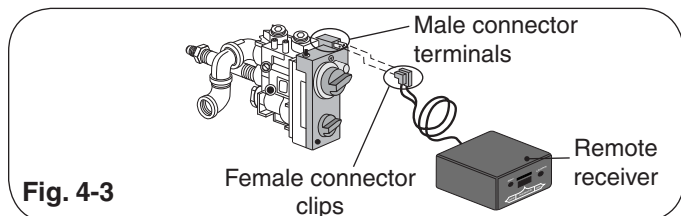

Fig. 4-3
1. The APK-15(P) receiver has two female connector clips attached to the leads; one large and one small. Connect the female connector clips to the corresponding male connector terminals (one large, one small) on the APK-15(P) valve. The male connector terminals are located on the front upper right hand corner of the valve (Fig. 4-3).